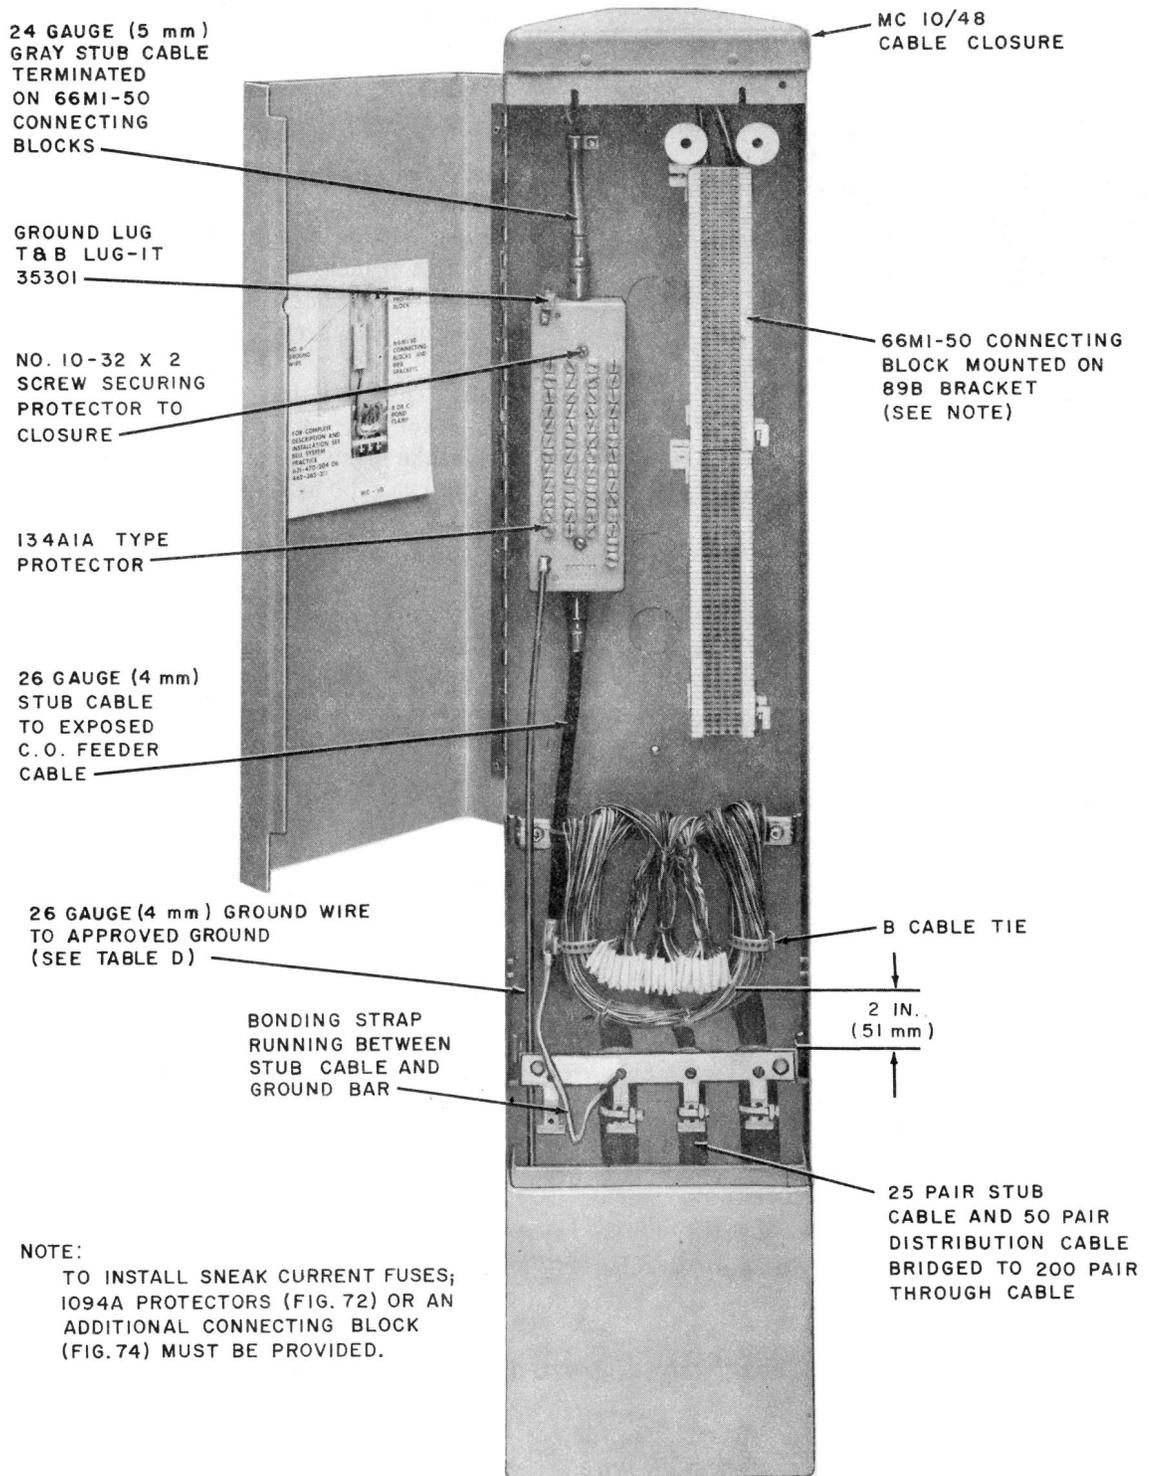

Fig. 18—134A1A-25 Protector Installed in Cable Closure
3.23 The 134-type protectors (Fig. 18) consist of a cast-resin block containing 2A1A protector units, a 26-gauge stub cable (to serve as a fusible link), a 24-gauge terminating stub cable, and two ground lugs. The protectors are available in 16-, 25-, 50-, and 100-pairs sizes (Table C). Either of the ground lugs can be used for a protector ground, and a ground wire no smaller than a No. 6 should be used to ground the protectors (Table B). The 134-type protectors can be installed in cable closures, cable terminal sections, or on B cable terminal frames.